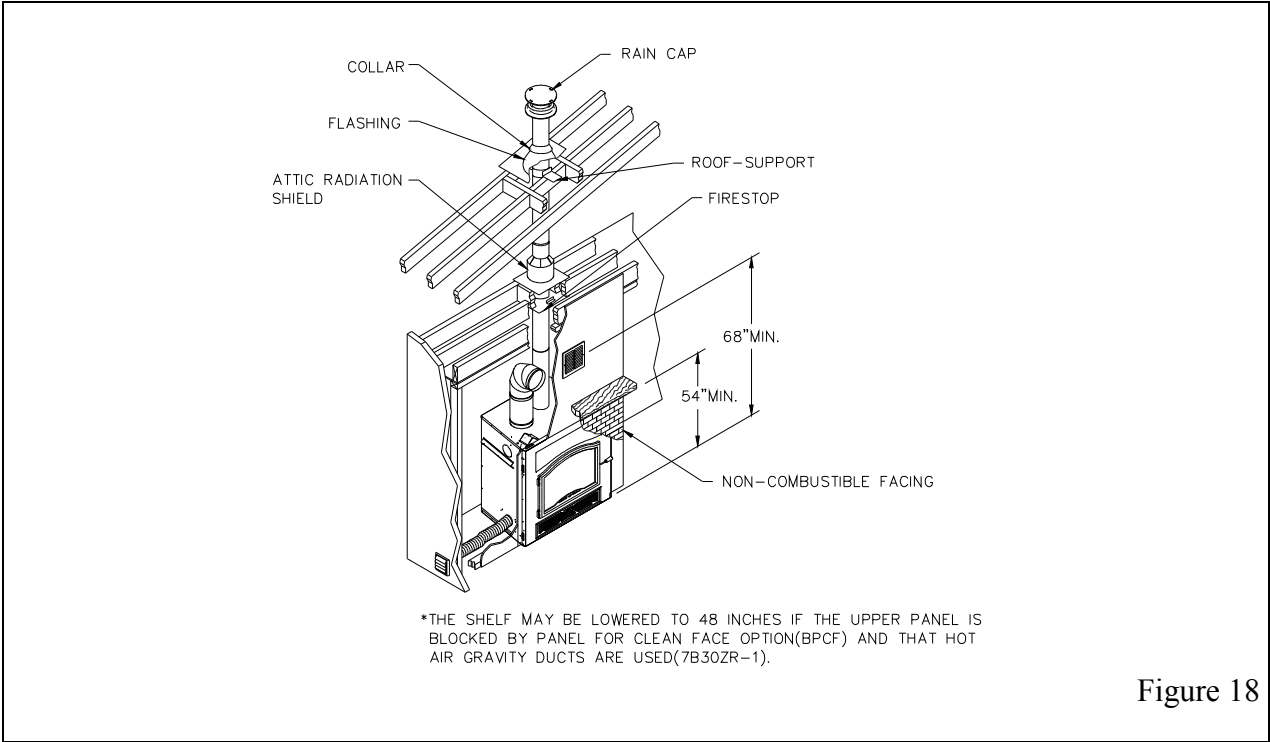

Figure 18
- The fireplace façade can be covered with non-combustible material (fig. 18).